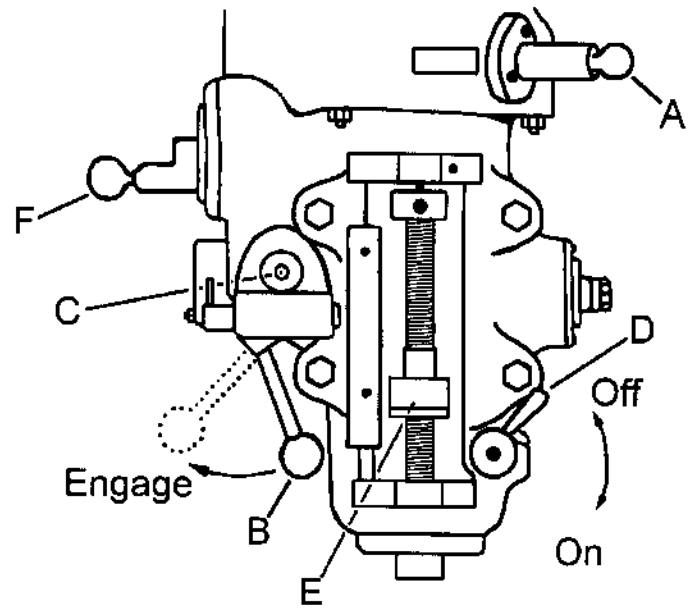

Fig. 8
1. Disengage power feed by pulling out knob (A, Fig. 8) and moving lever to the right hole.
2. Locate the feed reversing knob (C, Fig. 8 & 9) in the center or neutral position.